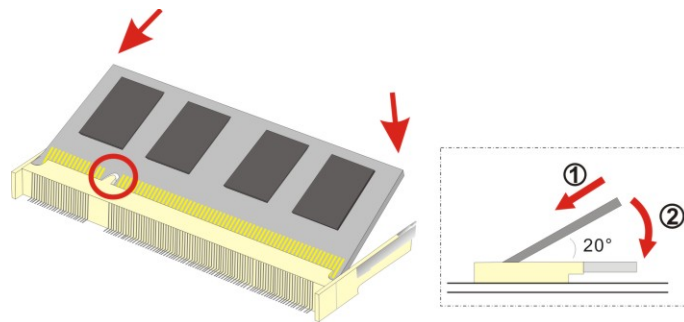

Figure 4-1: SO-DIMM Installation
To install an SO-DIMM, please follow the steps below and refer to Figure 4-1.
- Step 3:** **Insert the SO-DIMM**. Push the memory in at a 20° angle. (See Figure 4-1)
- Step 4:** **Seat the SO-DIMM**. Gently push downwards and the arms clip into place. (See Figure 4-1)